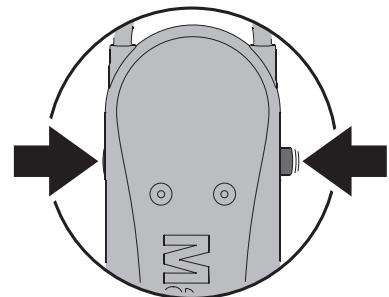

Figure 2
4. See Figure 2. Apply the tilt lock with the head topside up (in this position the text on the back of the head is the right way up).